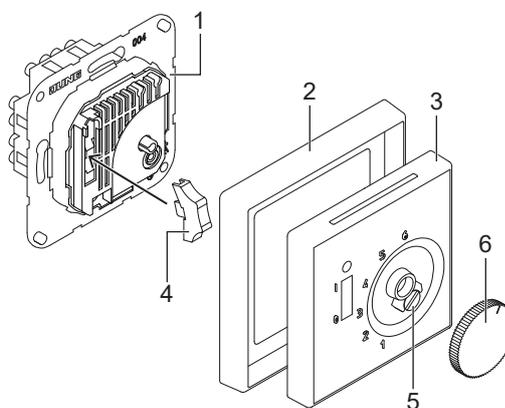

Fig. 1: Geräteaufbau
- Clip the rocker (4) on the switch in the flush insert. (fig. 1)
- Tighten the screw (5). (fig. 1)
- Clip on the setting knob (6). (fig. 1)